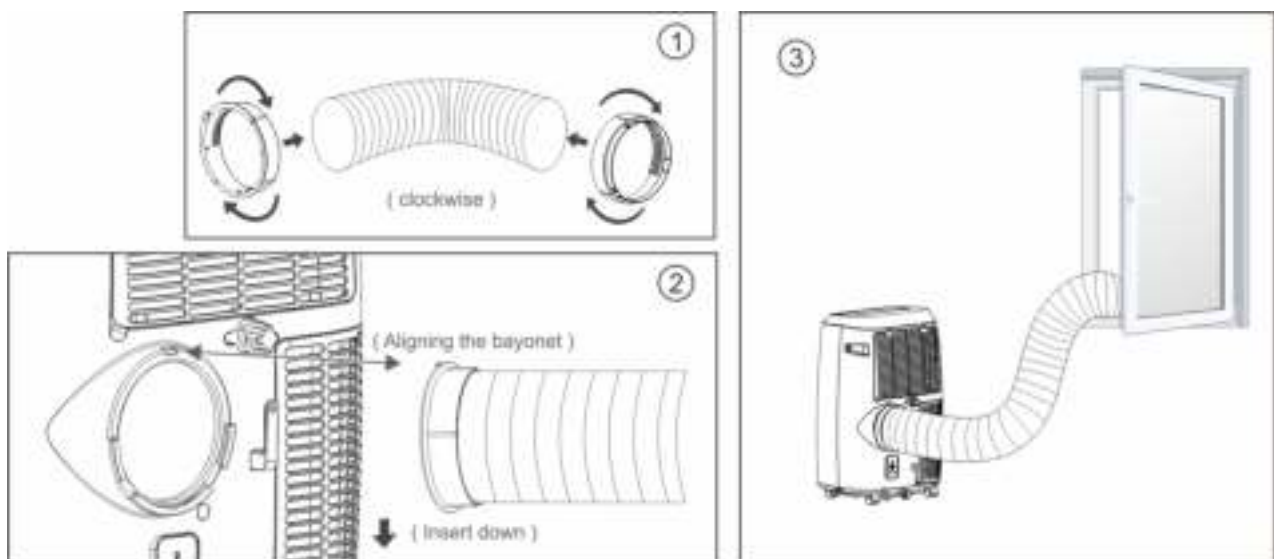

Fig.9
3. Put the other end of the exhaust hose to the near windowsill(see Fig.9).